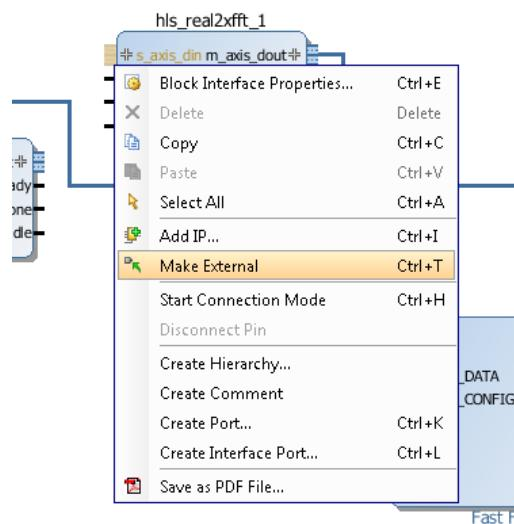

Figure 204 Make External Connections
10. Right-click on "s_axis_din" interface connector on Hls_real2xfft block and select Make External (Figure 204)